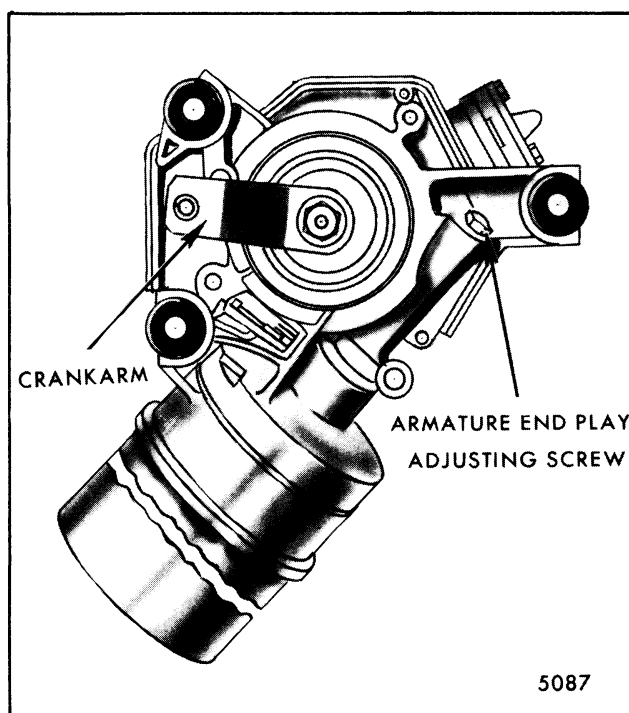

Fig. 2-49-Wiper Motor and Crank Arm in Park Position
8. Operate wiper to "park" position and install crankarm in the approximate position shown in Figure 2-49.
1. Loosen adjusting screw locknut (Fig. 2-49) and tighten or loosen the adjusting screw as required until end of screw barely touches end of armature.